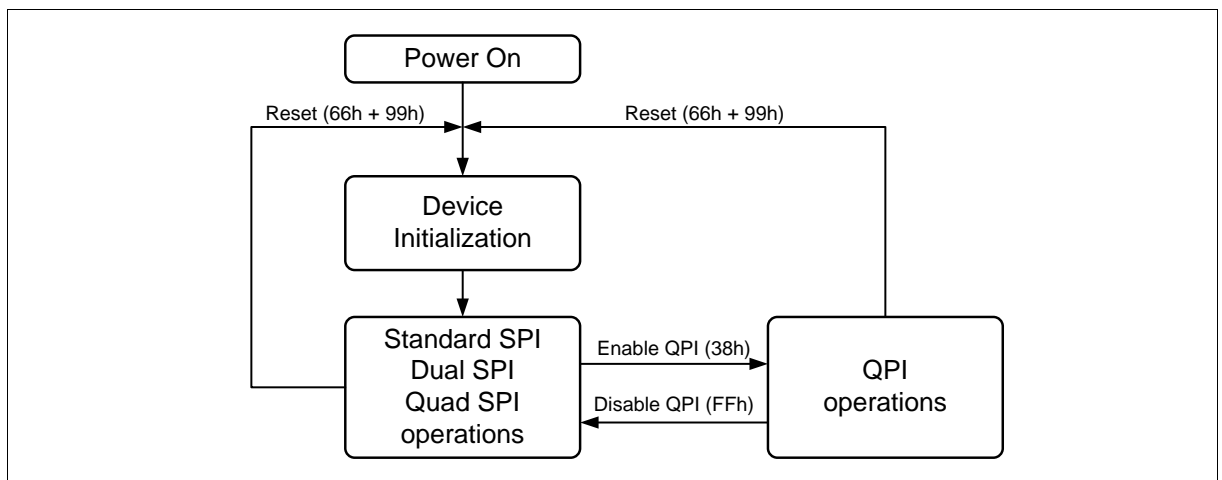

Figure 2 FM25Q64 Serial Flash Memory Operation Diagram
The FM25Q64 supports Quad Peripheral Interface (QPI) operations only when the device is switched from Standard/Dual/Quad SPI mode to QPI mode using the “Enable QPI (38h)” instruction. The typical SPI protocol requires that the byte-long instruction code being shifted into the device only via DI pin in eight serial clocks. The QPI mode utilizes all four DQ pins to input the instruction code, thus only two serial clocks are required. This can significantly reduce the SPI instruction overhead and improve system performance in an XIP environment. Standard/Dual/Quad SPI mode and QPI mode are exclusive. Only one mode can be active at any given time. “Enable QPI (38h)” and “Disable QPI (FFh)” instructions are used to switch between these two modes. Upon power-up or after a software reset using “Reset (99h)” instruction, the default state of the device is Standard/Dual/Quad SPI mode. To enable QPI mode, the non-volatile Quad Enable bit (QE) in Status Register-2 is required to be set. When using QPI instructions, the DI and DO pins become bidirectional  $DQ_0$  and  $DQ_1$ , and the WP# and HOLD# pins become  $DQ_2$  and  $DQ_3$  respectively. See Figure 2 for the device operation modes.